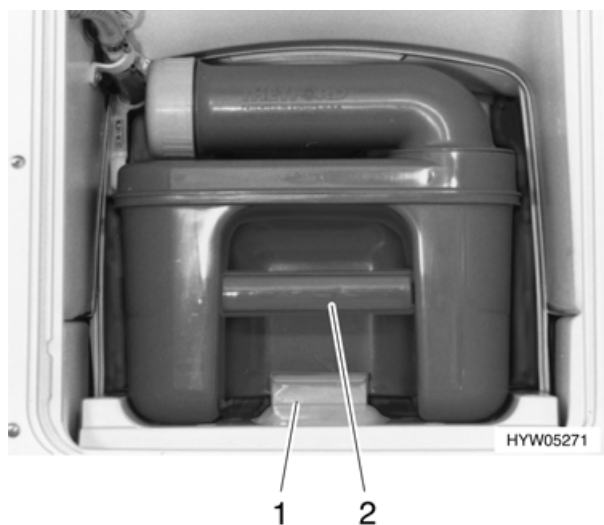

Fig. 90 Removal of the Thetford cassette
- Release safety catch (Fig. 90,1) and pull out the Thetford cassette (Fig. 90,2).